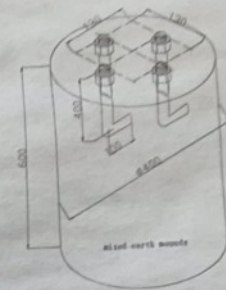

Figure1:manufacture of mixed earth mound
Figure 1 the fabrication of anchor
5. Please refer to the national standard, or the European standard, or American standard or figure 1 in this manual to arrange grounding device